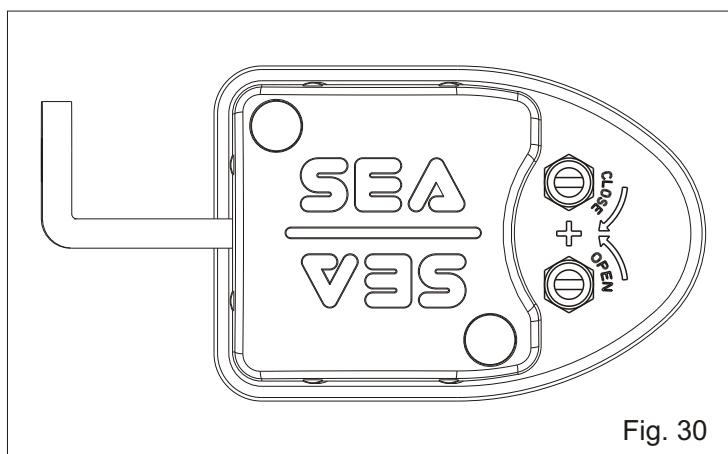

Fig. 30
4.2. Use a screw-driver to rotate the screw (Fig. 30 and 31) knowing that rotating each screw toward the (+) it will increase the stroke in opening (OPEN) and in closing(CLOSE).